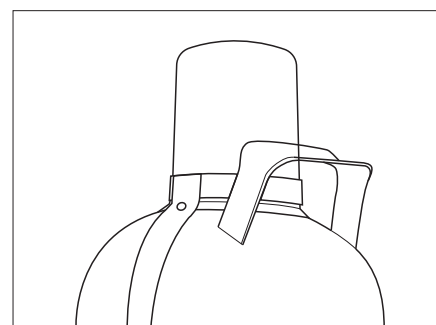

Fig. 46 Gas bottle during driving
- Place the protective hood onto the gas bottle (Fig. 46).